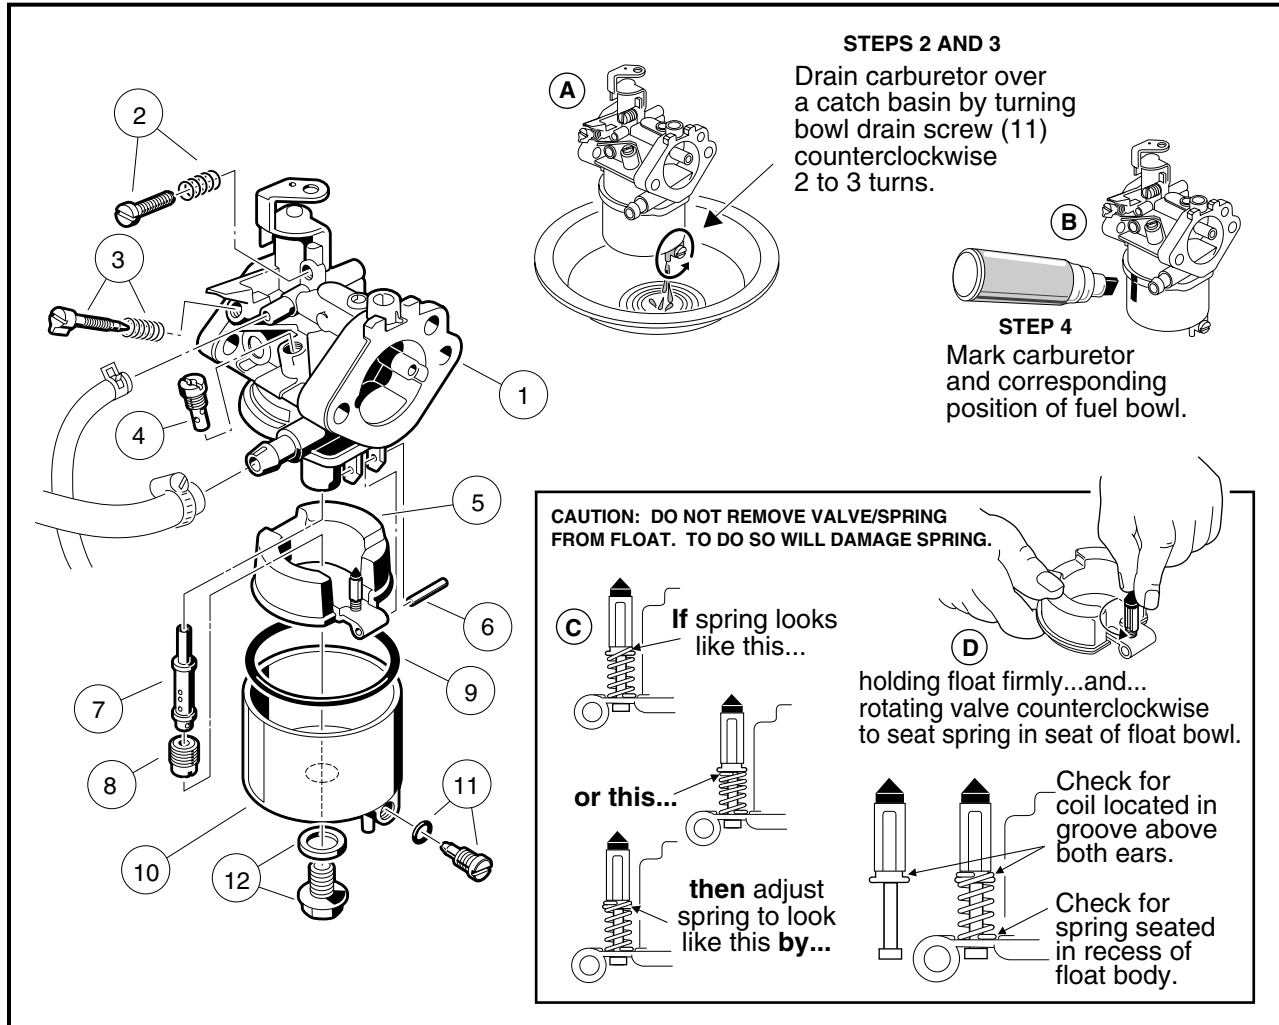

Figure 14-3 Changing the Main Jet
2. Position the carburetor with the drain screw (11) over a catch basin (**Figure 14-3, Page 14-5**).
5. Remove the carburetor fuel bowl retaining screw and washer (12) and fuel bowl (10) and clean it with a nonflammable solvent. See following **NOTE**.
**NOTE:** Make sure the fuel bowl gasket (9) remains properly seated in the carburetor body when the fuel bowl is removed.